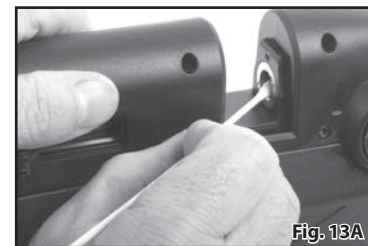

Fig. 13A
1. Using a cotton swab lubricate the breech o-ring and bolt tip as shown in Figure 13A. Crosman RMCOL is recommended for this application. Perform this procedure at approximately 100 shot intervals.